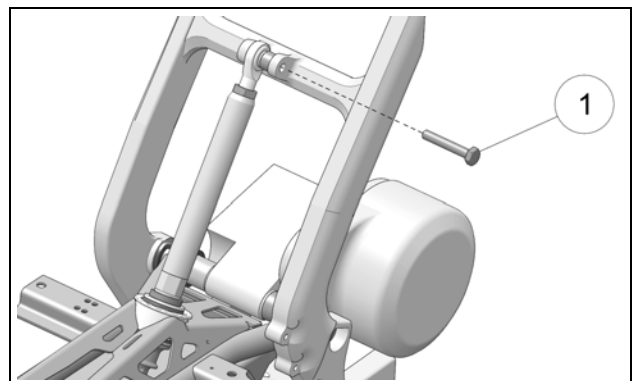

Figure 24
- Position rod end's T-Bushing at upper shock absorber mounting point. Choose direction of insertion for T-Bushing that will provide the best possible alignment for the rear system. Re-use original shock absorber bolt (1). See Figure 24.